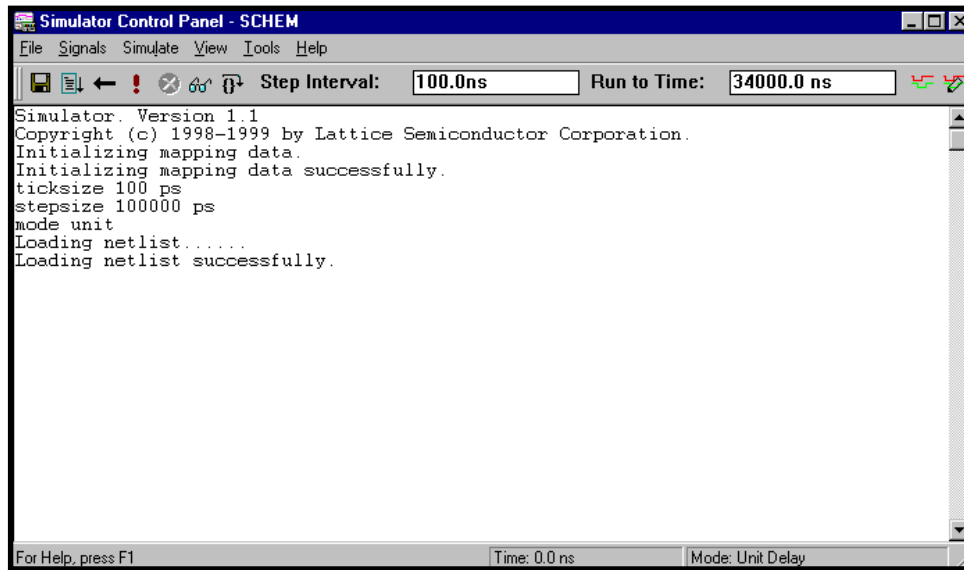

Figure 2-2. Simulator Control Panel Window
2. Double-click the Functional Simulation or Timing Simulation process to launch the simulator. The Simulator Control Panel window appears (Figure 2-2).